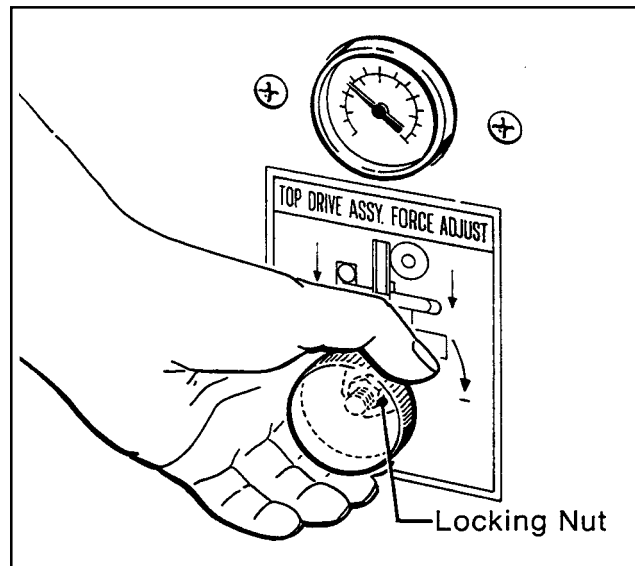

Figure 3-5 – Air Regulator/Gauge, Top Drive Assembly
- ⑦ **Air Pressure Regulator/Gauge, Top Drive Assembly Force Adjustment** – Figure 3-5
For boxes which are fully packed with products that support the top flaps, the adjustment of this regulator is not critical since the boxes can support the pressure of the upper frame (drive belts) at a wide range of regulator settings. However, if under-filled or fragile boxes are sealed, this regulator can be used to set the upper frame pressure to a minimum that is still adequate to positively convey the box and to prevent damage of boxes. The regulator setting can be locked by securing the lock nut on the regulator shaft as shown in Figure 3-5.